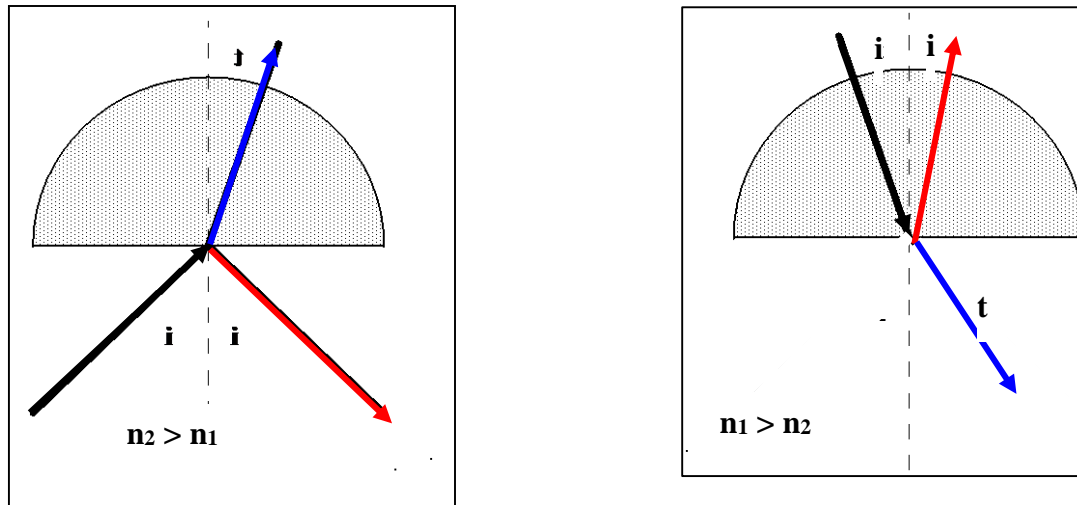

Figure 2. Incoming reflected and transmitted beams for the two experimental configurations.
- 1. Initial observation.** Recall that the sample must be centered on its turntable to avoid angle changes on exit. See schematics in figure 2. To familiarize yourself with the setup start by detecting the beam on a piece of paper wrapped around the turntable. This will allow you to see the positions of both reflected and transmitted beams. Observe what happens as you change the incident angle. You should be able to measure Brewster's angle and the critical angle. How will you know that you reached the critical angle? How will you identify Brewster's angle? Record the values - how do these compare to the expected values? These are rough estimates that will be
2. Snell's Law. Measure the angle of the incident beam and the refracted beam for both the air to glass and glass to air interface, as depicted in Figure 2. Record the angle of refraction t as a function of the incident angle i . Plot $\sin(t)$ versus $\sin(i)$ and obtain $(n_{\text{glass}}/n_{\text{air}})$ from the slope of a linear fit. Find the critical angle. Do these measurements for both the semicircular glass and semicircular plastic sample. Take at least 5 measurements, but the more measurements you take the less error you should have. If done perfectly, the highest source of error should be from the goniometer itself.
perpendicular polarization, as a function of the incident angle. These measurements will be done for the air to glass interface (depicted on the left in Figure 2) for both the semicircular glass and plastic sample. Repeat this measurement for 10-15 values of i . For better precision increase the density of point in the regions of interest near Brewster's angle.
transmitted light. This is the glass to air interface, depicted on the right in Figure 2. In this geometry, the systematic error due to multiple reflections will be larger. Make corresponding corrections on the basis of your estimates of losses for the normal incidence. Pay special attention to the angle of the total internal reflection (critical angle). Does it depend on polarization?